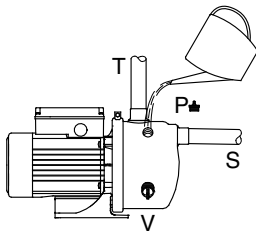

Fig. 5 Filling the pump with water
Remove the plug (V), see fig. 5, and fit the ejector valve into the hole.
1. Remove the plug (P). See fig. 5.